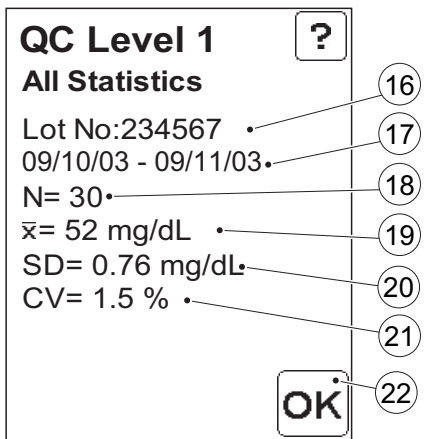

FIGURE 7-14
e) Press the Confirm button (15). *FIGURE 7-14* will be displayed.